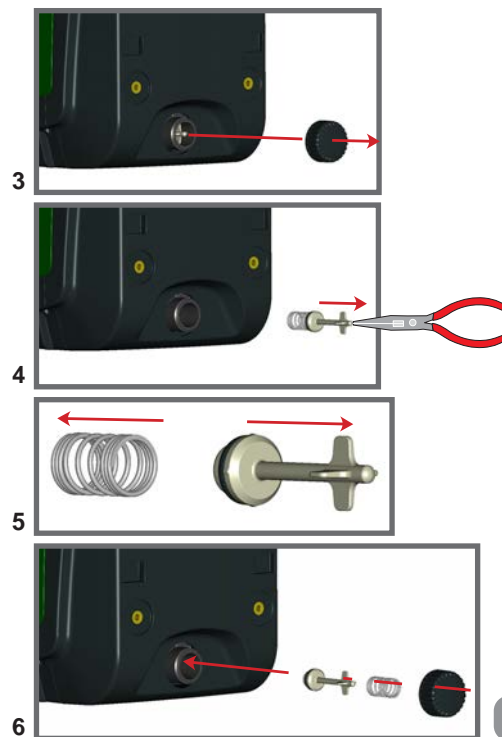

Figure 18
3. remove the drainage cap anyway, taking care not to drop the O-ring (Fig.18);